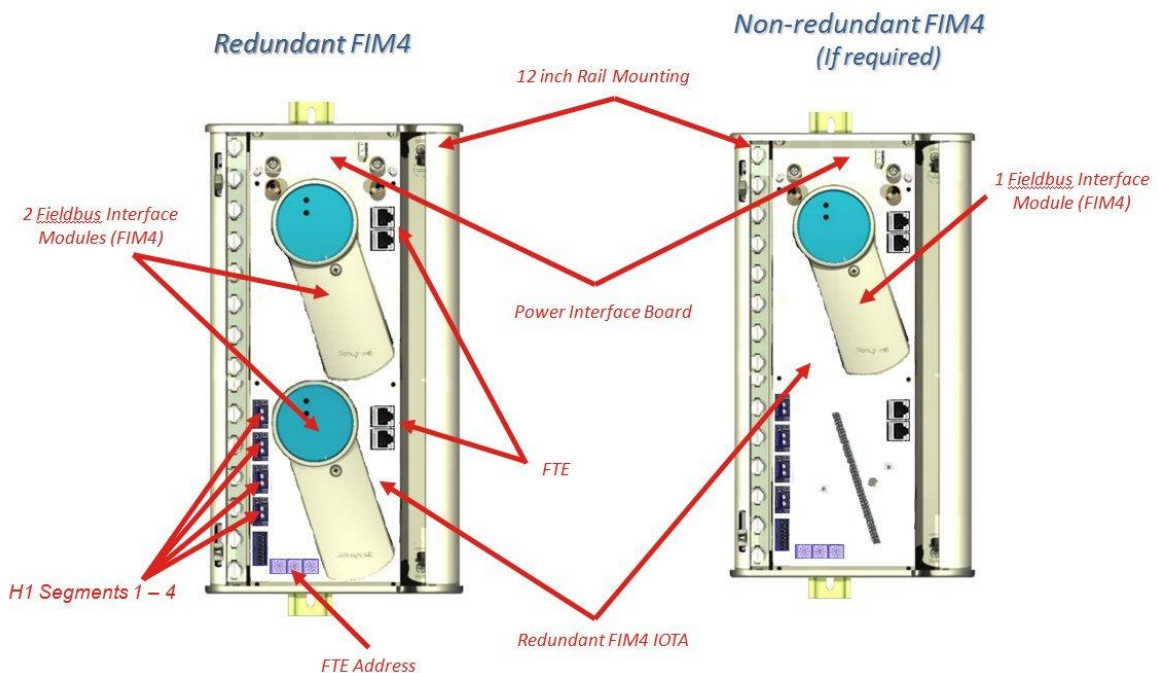

Figure 1: Series 8 FIM4 Kit types and configurations (redundant and non-redundant)
As Figure 1 shows FIM4 module is mounted to a FIM4 IOTA. The FIM4 IOTA is 12 inches long and install on a din rail case. Redundant kit provide two FIM4 modules on IOTA, non-redundant kit use one FIM4 module on it.
Figure 1 also shows the various connection points. Note that 24 Vdc (to power the modules) is provided from the Power Control module (PartNumber: 51307038-100). There are also FTE (green & yellow) connectors for each FIM4 module. The FIM4 FTE (IP) index address is set using the rotary switches on the IOTA. This represents the last octet of the four octets that make up the complete FTE IP address. However, you can implement conditioners from other 3rd party vendors and hard wire the conditioners using standard FF H1 practices. Note that all power conditioners and the H1 network are isolated from the Series 8 power system.